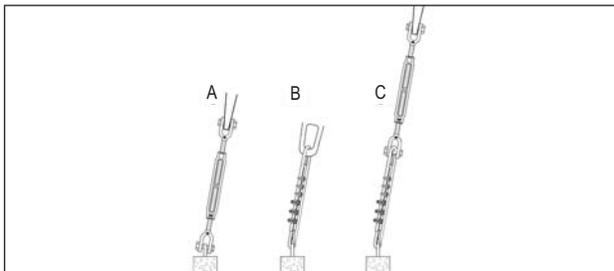
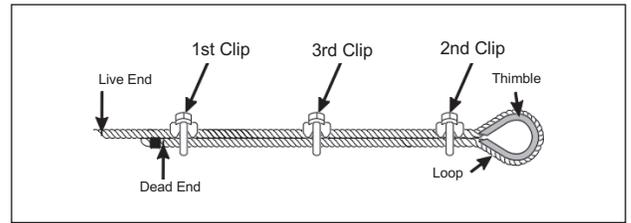
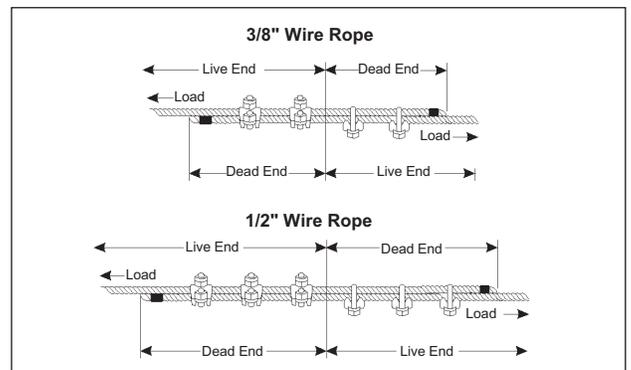

FIGURE 6-3
FIGURE 6-4
FIGURE 6-5
6.6.6. The installer is responsible for using appropriate and approved engineering practices when fastening wire rope. Refer to recommendations of wire-rope manufacturer and supplier, and follow accepted industry standards when selecting, using, attaching or connecting wire rope. (See FIGURE 6-3, FIGURE 6-4 and FIGURE 6-5.)
6.6.7. When connecting the end of a hold-down strap to the anchor, common methods (shown in FIGURE 6-3) are using a drop-forged turnbuckle (see A), using a looped wire rope (see B), or using a combination of both (see C).
6.6.11. Apply the first clip at a distance from the dead end of the wire rope that is equal to the largest width of the clip used. (See FIGURE 6-4.)
6.6.12. For each clip, apply a U-bolt over the dead end of the wire rope. (See FIGURE 6-4.) (Note: Live end rests in saddle.)
6.6.13. When two clips are required, apply the second clip as near the loop or thimble as possible. (See FIGURE 6-4.)
6.6.14. When more than two clips are required, apply the second clip as near the loop or thimble as possible; turn nuts on second clip firmly, but do not tighten initially. (See FIGURE 6-4.)
6.6.17. If forming a loop in the wire rope, a splice is required for connecting the two ends together. Standard rigging practice for splicing wire rope calls for using twice the number of clips recommended for a single-end termination. Use a minimum of four clips for a 3/8-inch wire rope and a minimum of six clips for a 1/2-inch wire rope. Place the rope ends parallel to each other and install the clips as shown in FIGURE 6-5.